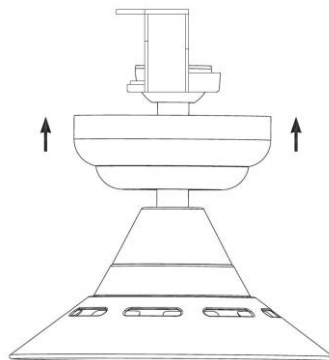

Fig.5
5. Carefully lift the fan and seat the down rod ball assembly into the spacing allocated in the mounting bracket and lock the ball into place. Fig. 5